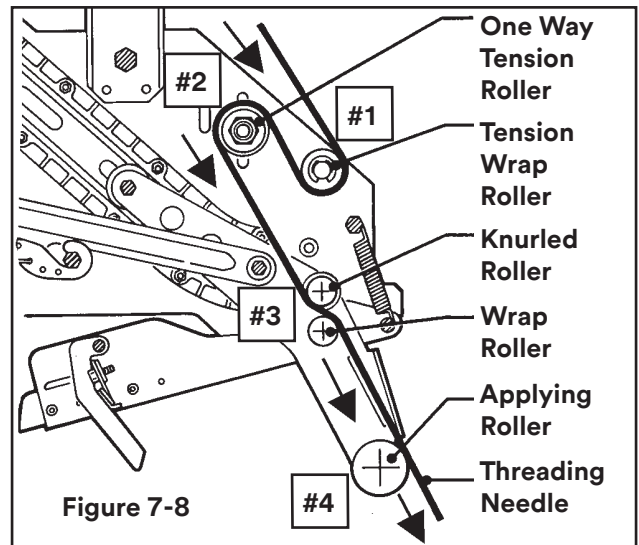

Figure 7-8
2. Use Figure 7-8 and tape threading label. Position the tape supply roll so the adhesive side of tape is facing the front of the taping head as it is pulled from the supply roll.
4. Continue pulling the threading needle down and guide it between the two (2) rollers on the apply arm (Position 3).